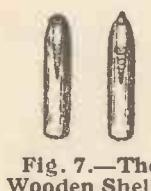

Fig. 7.—The Wooden Shells.
**Ammunition.**—In addition to cycle balls, "shells" could be used, made from a hardwood rod, pieces about  $1\frac{1}{2}$  in. long being cut off and a hole drilled in each to take a round-headed screw. After inserting the screw, file the end of the wood, as shown in Fig. 7, so that the end of the "shell" comes flush with the head of the screw. Another kind of "shell" is also shown in Fig. 7. In this case the head of the screw is cut off with a hacksaw, and part of the stem is filed to a sharp point.